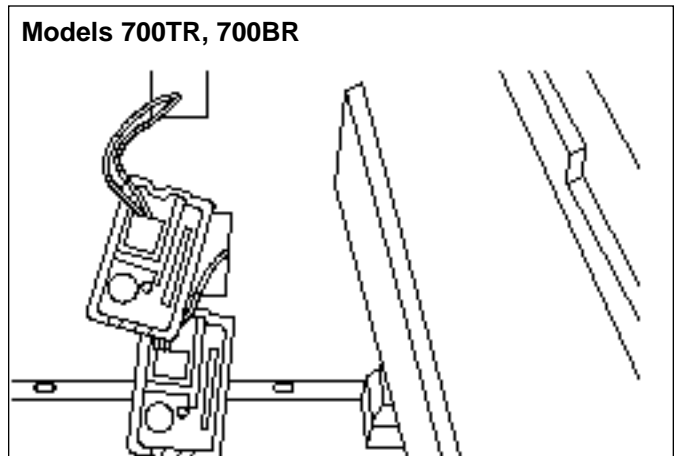

Figure 2-17. Thermistors In Reed Switch
2. Thermistors are located in each reed switch behind the drawer assemblies of each compartment (Figure 2-17). To replace the thermistor the complete reed switch assembly must be replaced. Simply remove the reed switch mounting screw, tilt the top of the
5. Remove both reed switches by unscrewing the mounting screw, tilt the top of the reed switch assembly forward and disconnect the electrical connector (Figure 2-17).
4. Remove both reed switches by unscrewing the mounting screw, tilt the top of the reed switch assembly forward and disconnect the electrical connector (Figure 2-17).
6. Remove both reed switches by unscrewing the mounting screw, tilt the top of the reed switch assembly forward and disconnect the electrical connector (Figure 2-17).